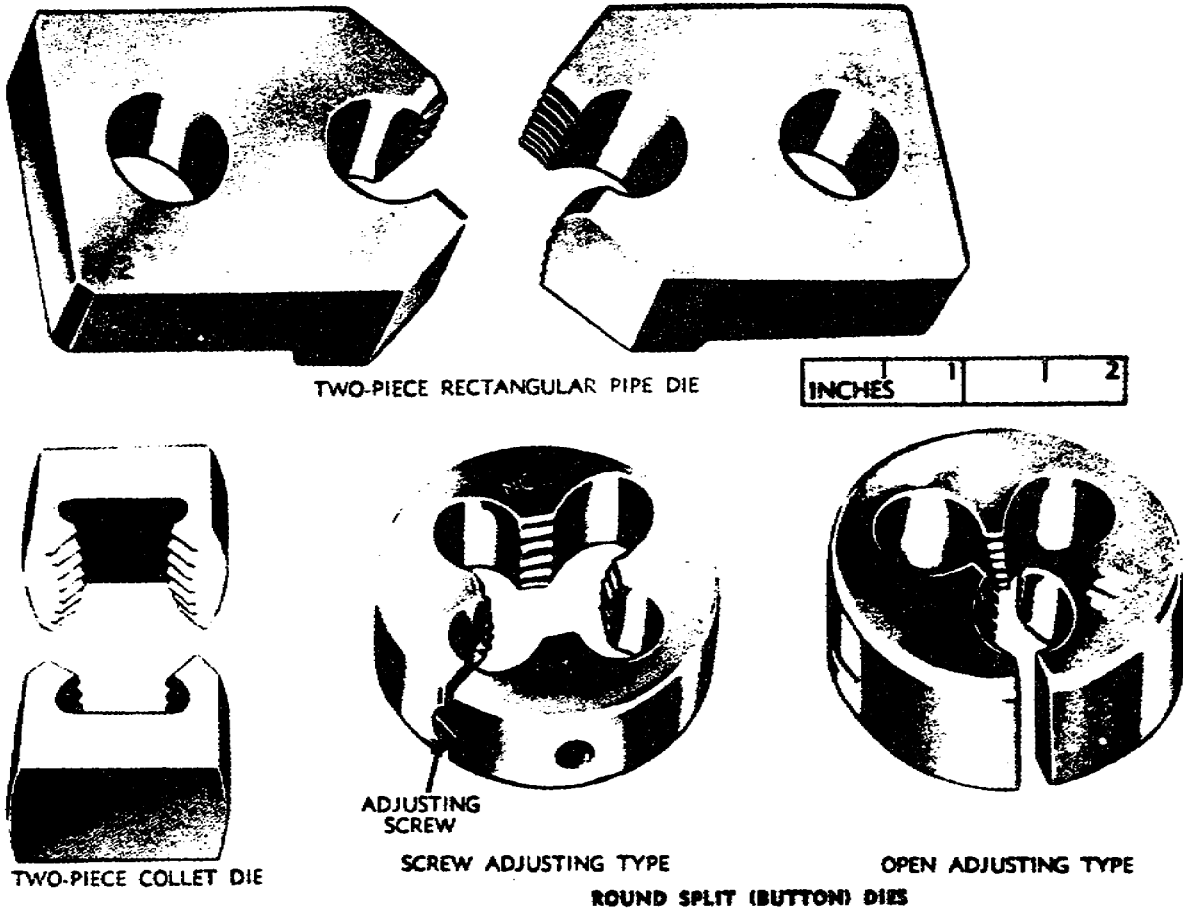
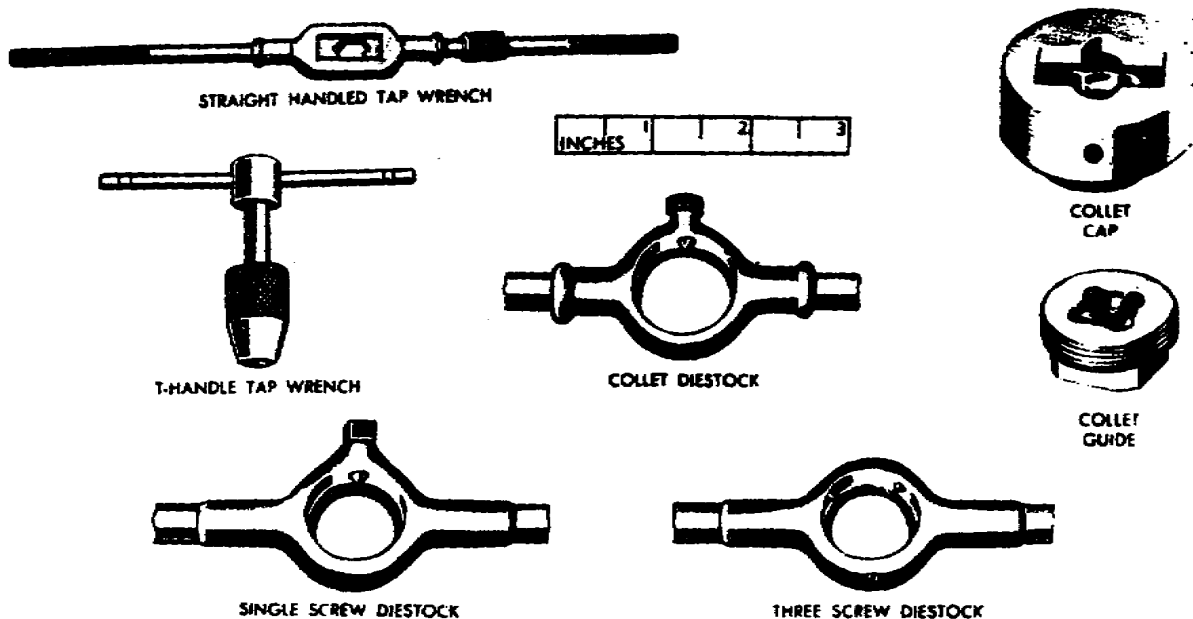

Figure 32,. Types of adjustable dies.
Figure 33. Diestocks, die collet, and tap wrenches.
(a) Round split adjustable dies. Round split adjustable dies (fig 32) are called "Button" dies and can be used in either hand diestocks or machine holders. The adjustment in the screw adjusting type is made by a fine-pitch screw which forces the sides of the die apart or allows them to spring together. The adjustment in the open adjusting types is made by means of three screws in the holder--one for expanding and two for compressing the dies. Round split adjustable dies are available in a variety of sizes to cut American Standard Coarse and Fine threads, special form threads, and for the standard sizes used in Britain and other European countries. For hand threading, these dies are held in diestocks (fig 33). One type has three pointed screws that will hold round dies of any construction, although specifically made for open adjusting-type dies.
(b) Two-piece collet dies. A two-piece collet die (fig 32) is used with a collet (fig 33). The collet consists of a cap and guide. The die halves are placed in the cap slot and are held in place by the guide which screws into the underside of the cap. The die is adjusted by means of setscrews at either end of the internal slot. This type of adjustable die is issued in various sizes to cover the cutting range of American Standard Coarse and Fine and special form threads. Diestocks (fig 33) to hold collets are issued in three sizes.
(c) Two-piece rectangular pipe dies. Two-piece rectangular pipe dies (fig 32) are available to cut American Standard Pipe Threads. They are held in ordinary or ratchet-type die-stock. The jaws of the dies are adjusted by means of setscrews. An adjustable guide serves to keep the pipe in alignment with respect to the dies. The smooth jaws of the guide are adjusted by means of a cam plate; a thumbscrew locks the jaws firmly in the desired position (fig 34). Non-ratchet-type diestock and plain guides are also available for pipe threading (fig 35).
(2) Adjustment for pitch diameter. The diestock (fig 33) for holding round split open adjusting dies (fig 32) has three screws. A fine pitch screw in this diestock enters the split in the die and forces the sides apart and the other two screws are on the opposite side for compressing. A single screw diestock (fig 33) is used to hold dies of the round split screw adjusting type (fig 32), that are provided with an adjusting screw which forces the sides apart or allows them to spring together, although this type die will fit in a three-screw diestock as well. Two-piece rectangular dies (fig 32) are adjusted by setscrews at either end of the diestock or of the slot in the collet (fig 33 and 34) in which they are placed.
(3) Threading pipe. The procedure for threading pipe is as described below.
(c) Assemble two-piece rectangular pipe die (fig 32) on adjustable die guide and ratchet diestock (fig 34).